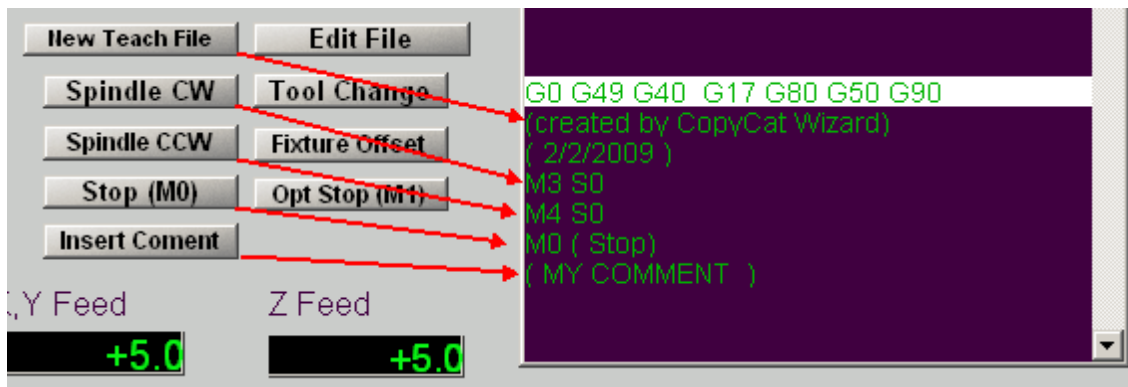

FIGURE 5.4
5.4 Codes are automatically added to the Gcode text window along with associated data upon clicking with the left mouse button as shown in figure 5.4 below.